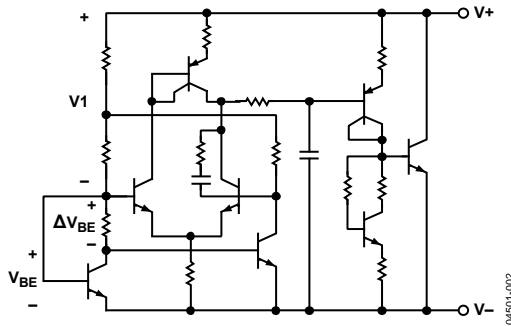

Figure 18. Circuit Schematic
The ADR520/ADR525/ADR530/ADR540/ADR550 use the band gap concept to produce a stable, low temperature coefficient voltage reference suitable for high accuracy data acquisition components and systems. The devices use the physical nature of a silicon transistor base-emitter voltage (V_{BE}) in the forward-biased operating region. All such transistors have approximately a $-2\text{ mV}/^\circ\text{C}$ temperature coefficient (TC), making them unsuitable for direct use as low temperature coefficient references. Extrapolation of the temperature characteristics of any one of these devices to absolute zero (with the collector current proportional to the absolute temperature), however, reveals that its V_{BE} approaches approximately the silicon band gap voltage. Thus, if a voltage develops with an opposing temperature coefficient to sum the V_{BE} , a zero temperature coefficient reference results. The ADR520/ADR525/ADR530/ADR540/ADR550 circuit shown in Figure 18 provides such a compensating voltage (V_1) by driving two transistors at different current densities and amplifying the resultant V_{BE} difference (ΔV_{BE} , which has a positive temperature coefficient). The sum of V_{BE} and V_1 provides a stable voltage reference over temperature.